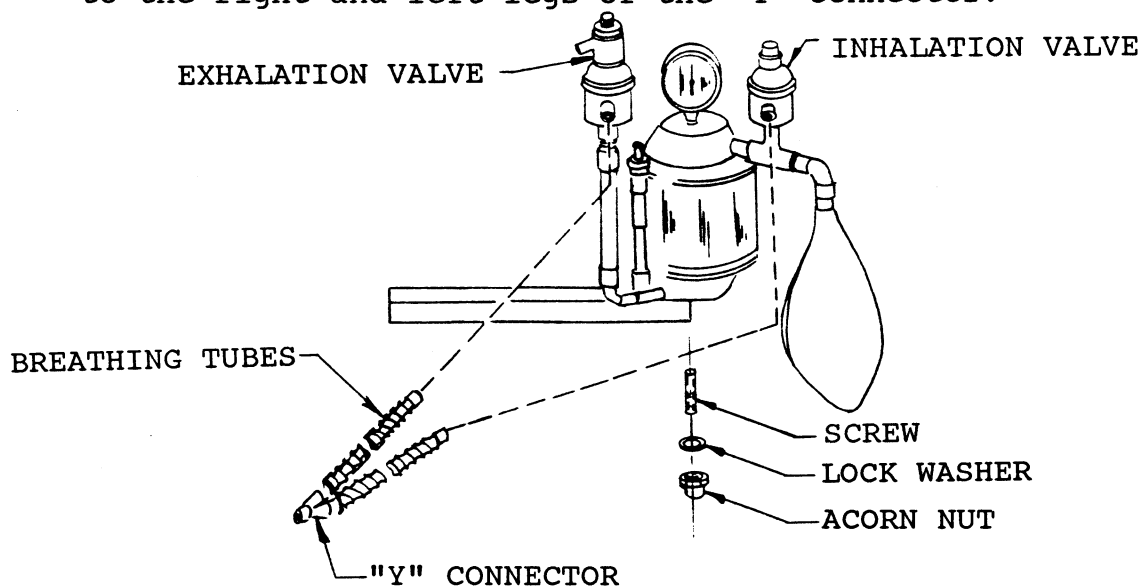

Figure 8 - VMS Assembly
3. Align the new extended, mounting bracket holes to the mounting screws in bottom of absorber plate (see Figures 8 and 11). Attach, using acorn nuts/washers (previously removed), by turning clockwise to tighten.